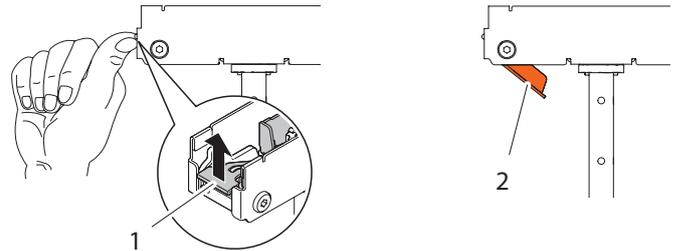

Fig. 26: Preparing the hanger adapter
2. On the hanger adapter, press both levers (Fig. 26/1) up so that the tabs open (Fig. 26/2).